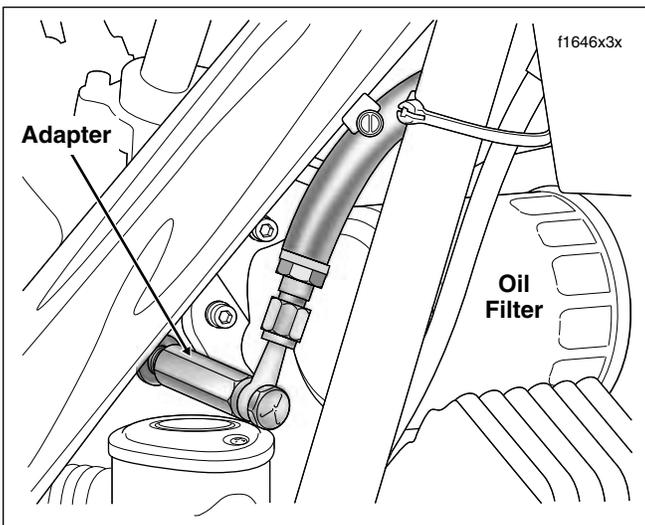

Figure 3-5. Install Adapter and Oil Pressure Gauge
6. Moving to left side of vehicle, route banjo fitting and hose of OIL PRESSURE GAUGE (HD-96921-52B) over shifter lever and oil filter to right side of engine. See Figure 3-5.